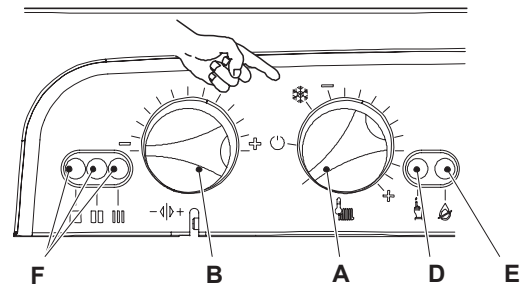

Figure 8.20
- 4 Turn the boiler ON positioning the function selector knob A as indicated in Figure 8.20 (M296.24SR/C, M296.28SR/C) and ensure that the timer selector switch and room thermostat, if fitted, are set to "heat demand". Run the boiler in c.h. mode.